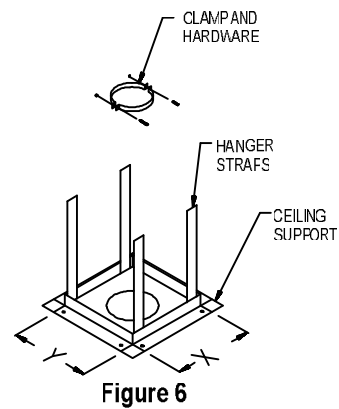

**Figure 4**
**3. Ceiling Support.** For a ceiling supported system, install the Square Firestop/Support as shown in **Figures 6, 7, and 8**. The Firestop Support must be framed in and the dimensions are shown in **Table 1** and shown in **Figure 4**. Firestop Supports are currently manufactured for pipe sizes of 3" through 12" only. Larger sizes may be locally fabricated from sheet metal, provided that the mandatory 1-inch clearance is maintained, the pipe is adequately supported, and the installation is acceptable to Local Authorities. In multistory buildings, a Firestop/Spacer must be provided at every floor /ceiling level other than the first floor which requires a support.